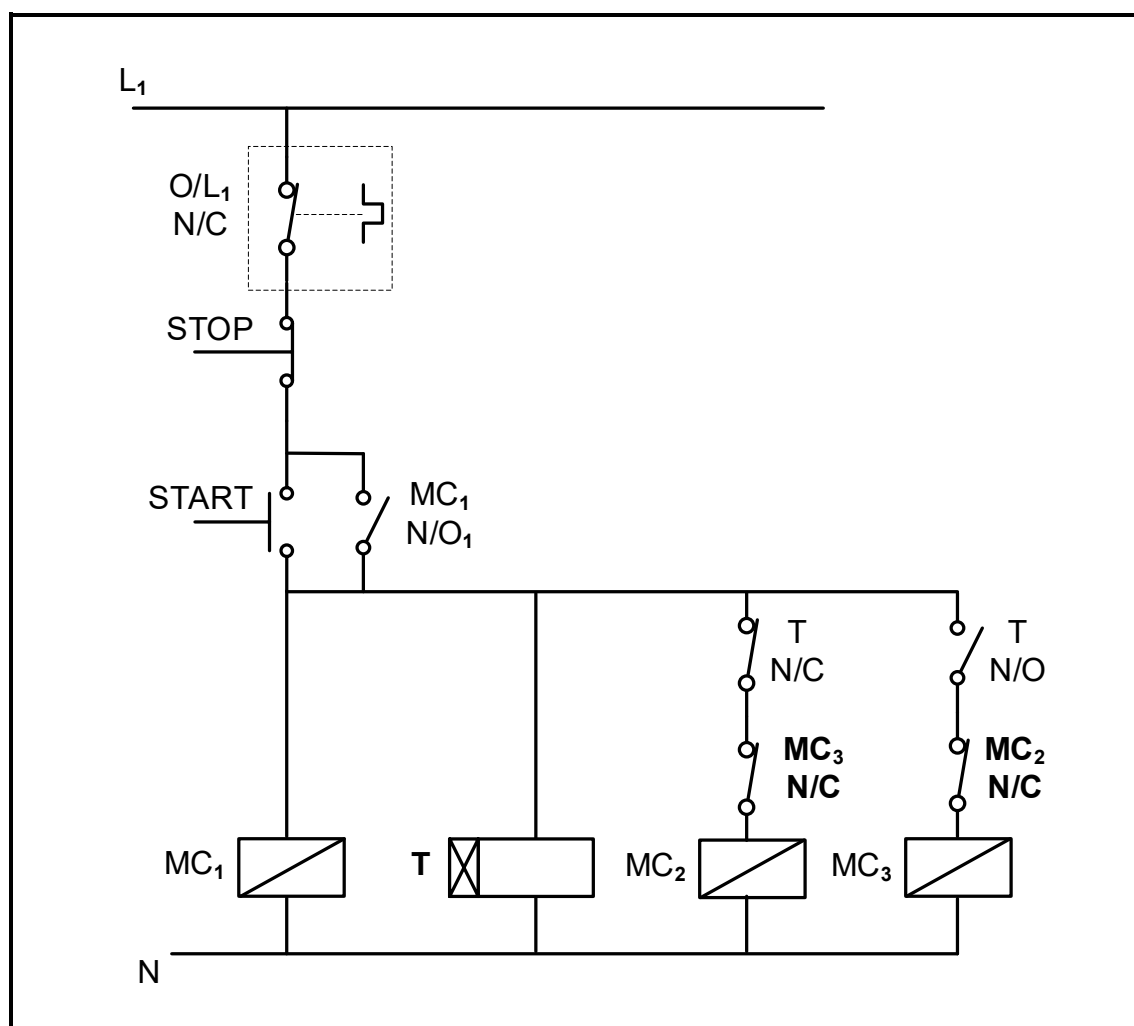

FIGURE 6.3: AUTOMATIC STAR-DELTA STARTER
- 6.3 FIGURE 6.3 below shows the control circuit of an automatic star-delta motor starter with a timer. The timer is set to 3 seconds. Answer the questions that follow.